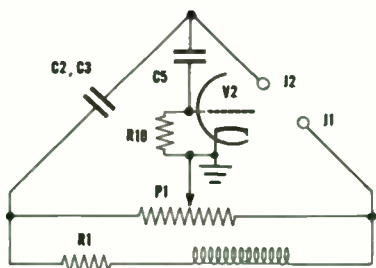

Fig. 1
- Fig. 1. Bridge circuit for "10mmfd - 5000mmfd" range (C2) and ".001mfd-.5mfd" range (C3).